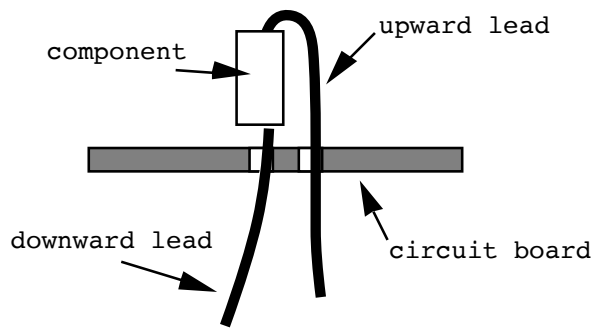

Figure 1 : “Japanese” Style Component Mounting
- 13 The resistors are installed “Japanese” style, which is upright with one lead that has a 180 degree bend in it. Install resistor R1 as shown in figure 1: